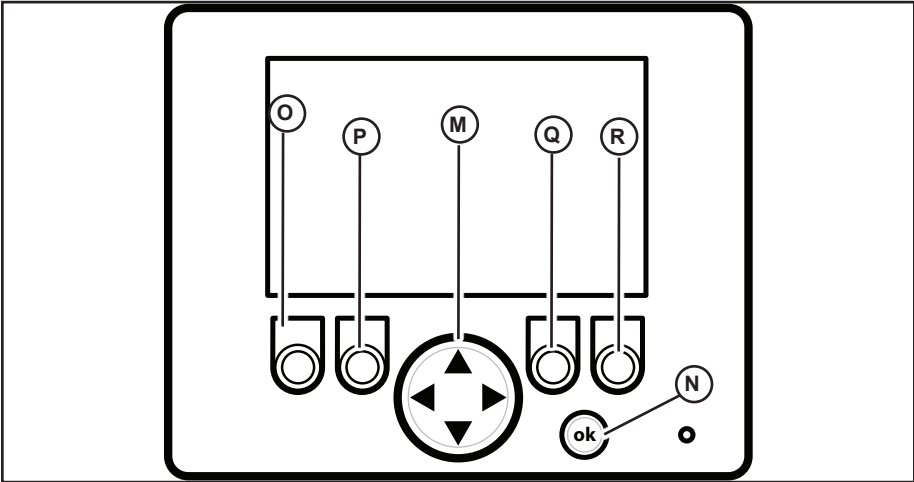

Fig. 8 - Information Center Electronic Display
Quad Gauge Display Displays four different status parameters simultaneously. To change the displayed parameters, press and hold the ok button (N, Fig. 8) until orange bar (T) displays. Press the left/right side of navigation rocker button (M, Fig. 8) to select the parameter and press the top/bottom of navigation rocker button to change the selected parameter. Press the ok button again to dismiss orange bar (T).
Single Gauge Display Displays single real time operating parameters. Switch between parameters using the navigation button (M, Fig. 8). Used for various functions, depending upon screen and context.
All Secondary Screens	Secondary screens are accessed by holding down the ok button (N, Fig. 8) for 10 seconds while the Dual Gauge Display screen is displayed. Press the left/right side of navigation rocker button (M, Fig. 8) to switch between secondary screens.
Units Screen Press the top/bottom of navigation rocker button (M, Fig. 8) to switch between SAE or metric units for values displayed in screens.
Language Screen The press the top/bottom of navigation rocker button (M, Fig. 8) to switch between English or Spanish language for values displayed in screens.
DM1 0 of 0 SPN: 0 FMI: 0 OCI: 0 ▼ ▲	DM1 Screen Displays engine, drive system, control, and safety system error code message information. Number of available messages is displayed at the top left of the screen (T). Use buttons (P and Q, Fig. 8) to scroll through the messages. See “Error Codes” on page 139 for specific error code details.